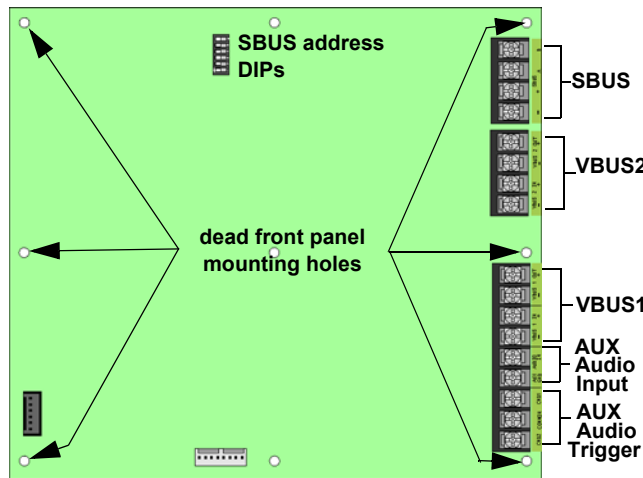

Figure 1.1 FIK-RVM Back View
3. Mount the FIK-RVM in the middle section of the dead front on the six mounting studs. See Figure 1.1.